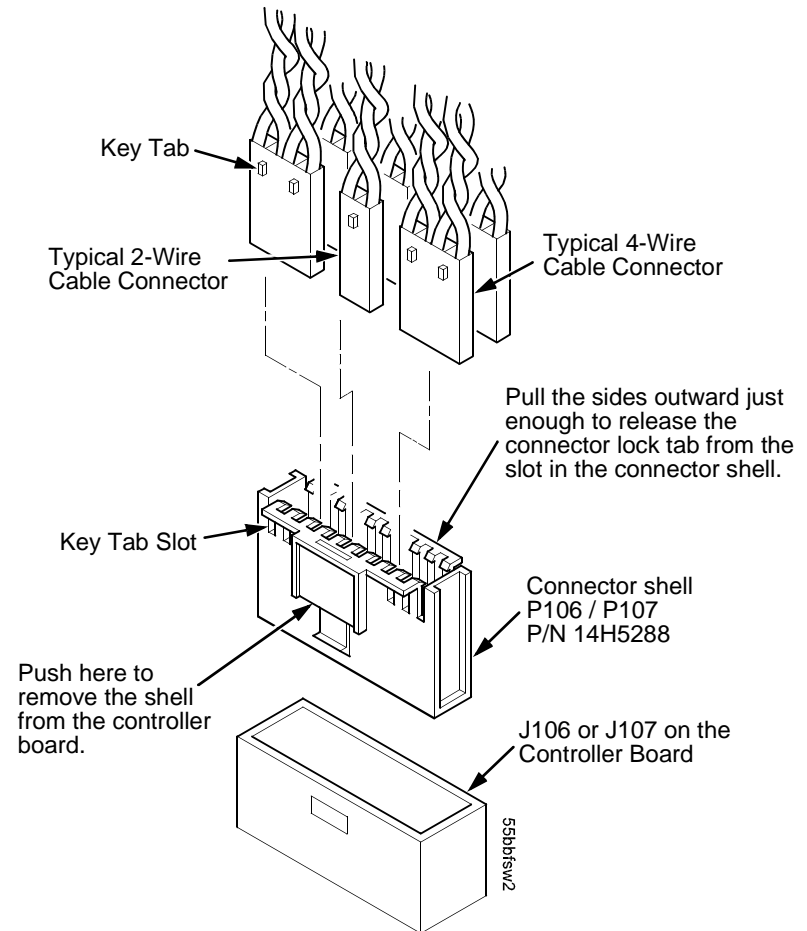

Figure 15. This figure shows how to assemble a cable connector shell.
4. Pull the side of the connector shell outward and gently pull the cable connector upward. (See Figure 15.) Notice that two-wire connectors are grouped across from two-wire connectors in a connector shell. Four-wire connectors are grouped across from four-wire connectors in a connector shell.
1. Position the cable connector in the connector shell. Two-wire connectors are always grouped across from two-wire connectors in a connector shell. Four-wire connectors are always grouped across from four-wire connectors in a connector shell. (See Figure 15.)